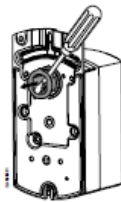

Figure 3
2. Remove factory installed 1/2-inch guide, as shown in Figure 3, to accommodate the size of the Stem (3).